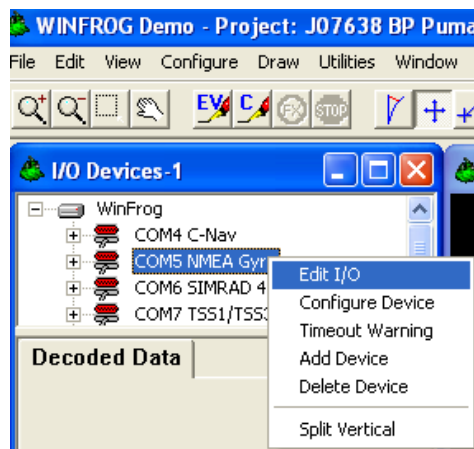

Figure 10
1.1 For **NEMA GYRO** verify the following settings under **Edit I/O**. See Figures 10 & 11.